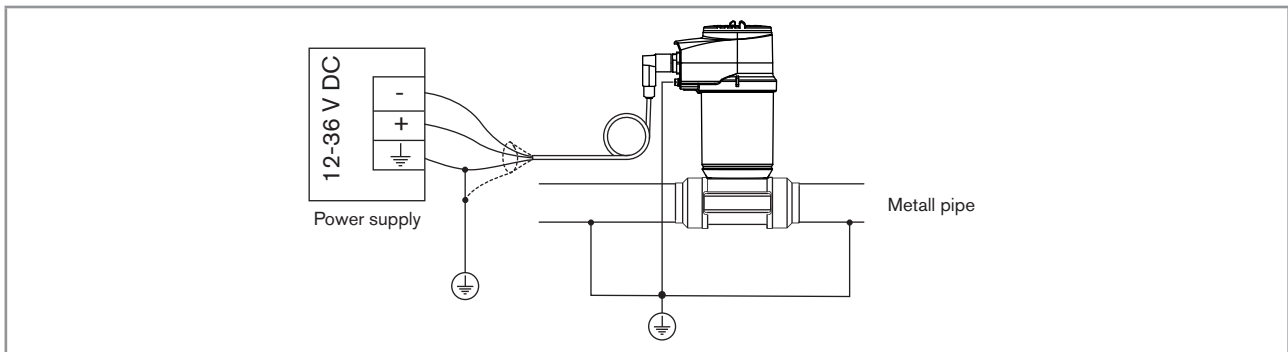
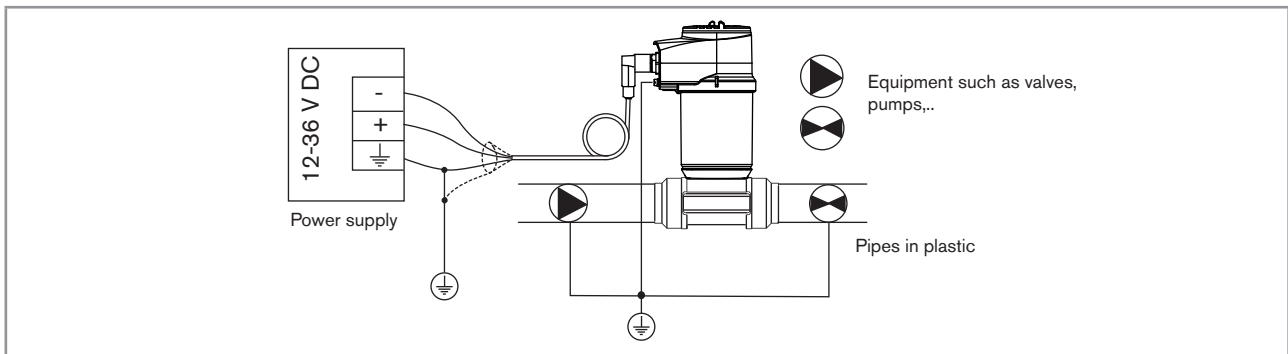

Fig. 15 : Equipotentiality skeleton diagram with pipes in metal
Fig. 16 : Equipotentiality skeleton diagram with pipes in plastic
- Observe faultless grounding of the shield of the power supply cable. Refer to Fig. 15 and Fig. 16.
- If the device is installed on plastic pipes, earth together the metallic equipment such as pumps or valves, that is as close as possible to the device. Refer to Fig. 16.